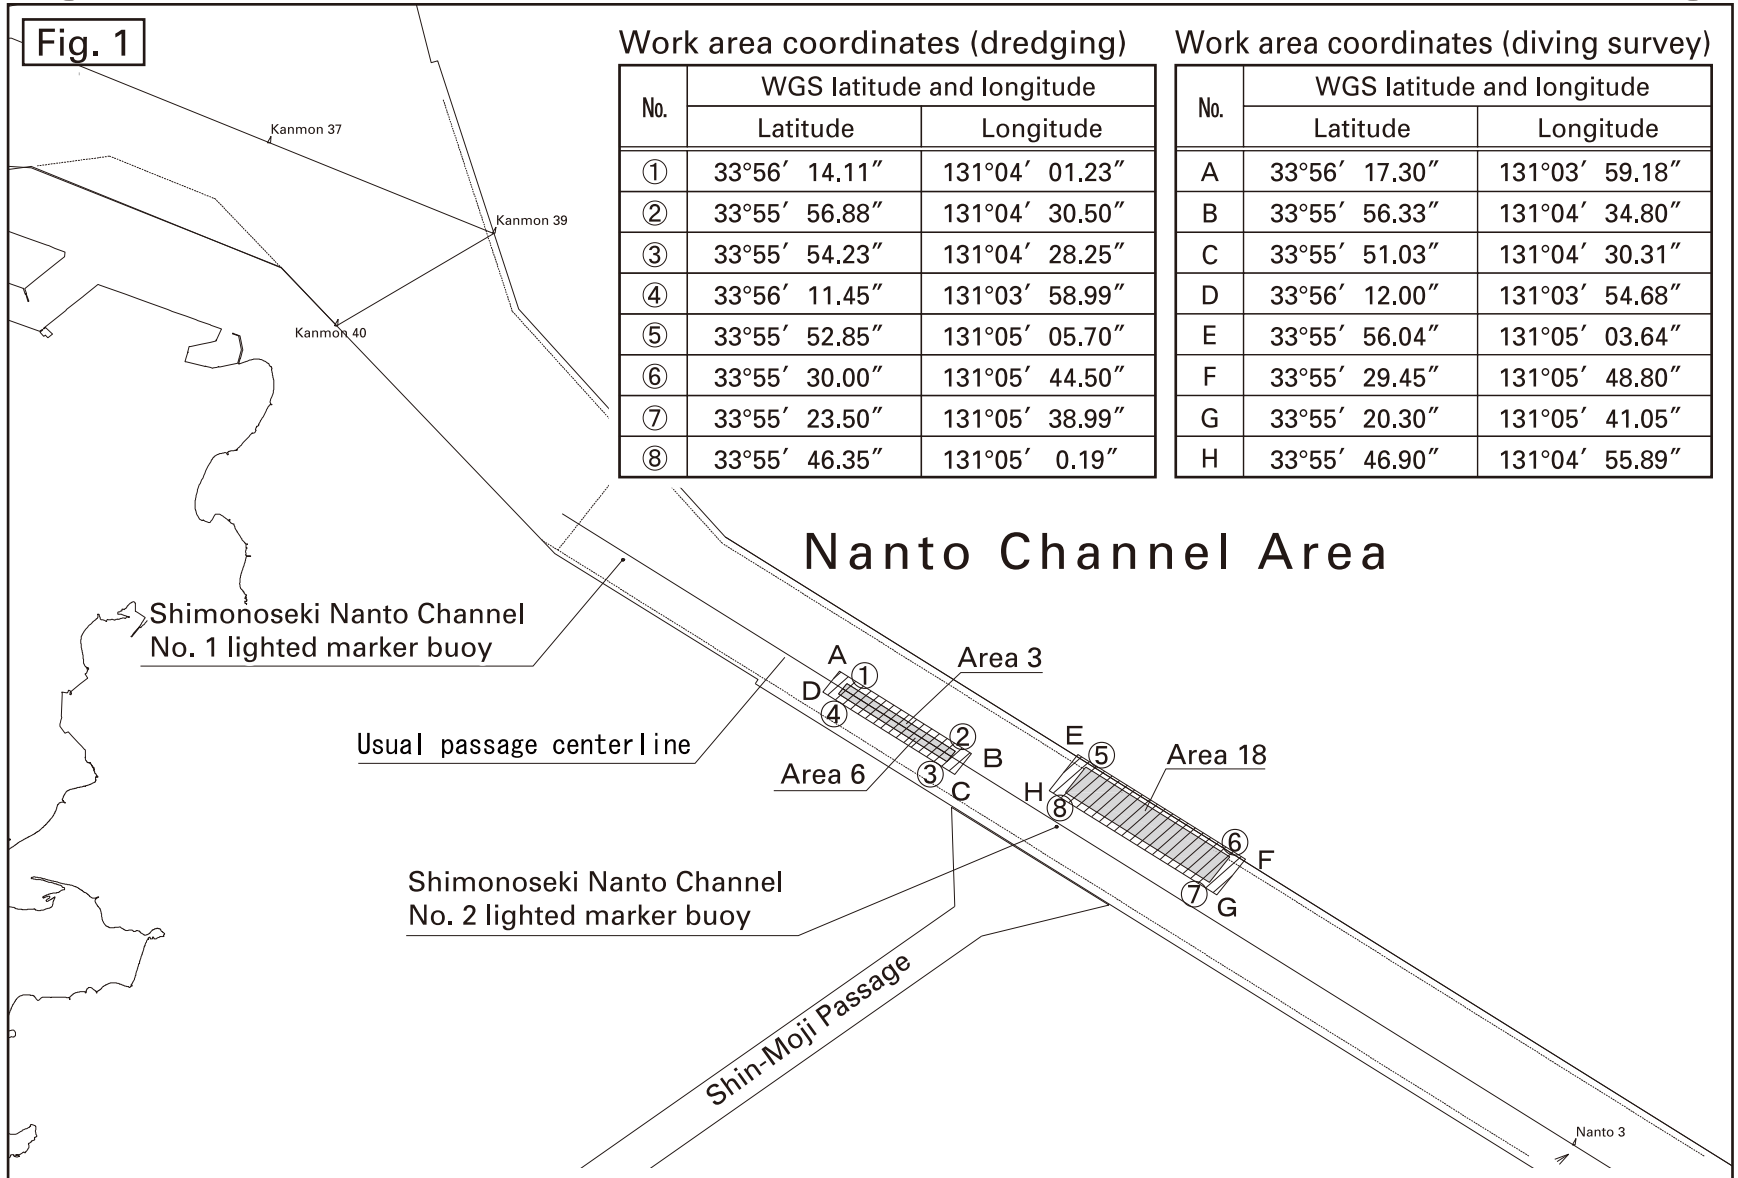

Fig. 2 Boat positioning during diving survey
- 1) Up to 16 diver support boats will be positioned parallel to the passage (Fig. 2).
- 4) During diving survey work, four patrol boats showing warning signs (green-yellow-green streamers) will mark the area, one with international VHF radio (Figs. 2, 4).
- 5) During diving survey work barrel buoys will be placed at the four corners of the work area, and at the midpoint if the length of the work area exceeds 300 meters (Figs. 2, 5).